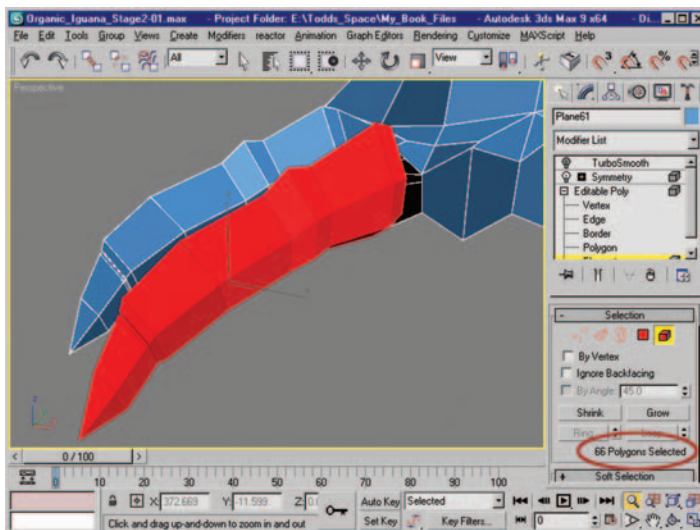

Figure 9.73 Finger polygons cloned (Element) to new location.
35. At the Polygon subobject level, select the 66 polygons that make up the finger (Figure 9.73, left). Use shift-drag to clone the finger (select Element in the dialog box) to a location just forward of the opening in the foot you created in the previous step (Figure 9.73, right).